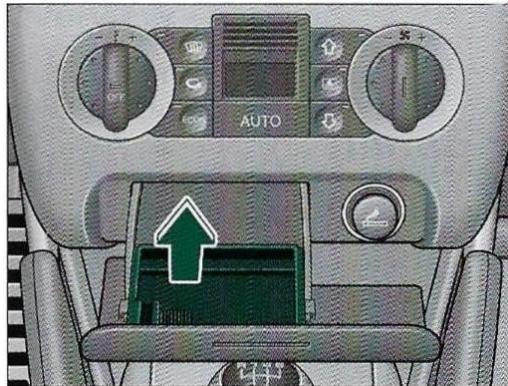

Fig. 62
- Take hold of both sides of the ashtray and lift it out, see fig. 62.